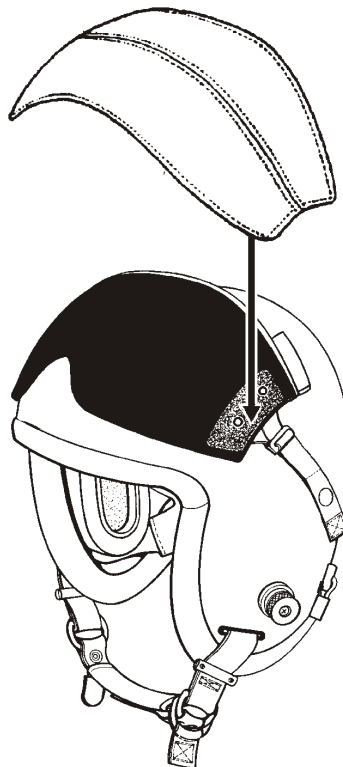

Figure 2-13. Installing Visor Cover
4. Referring to Figure 2-13, install the visor cover by attaching the hook fastener on the inside of the visor cover to the pile fastener on the outer visor on both sides.